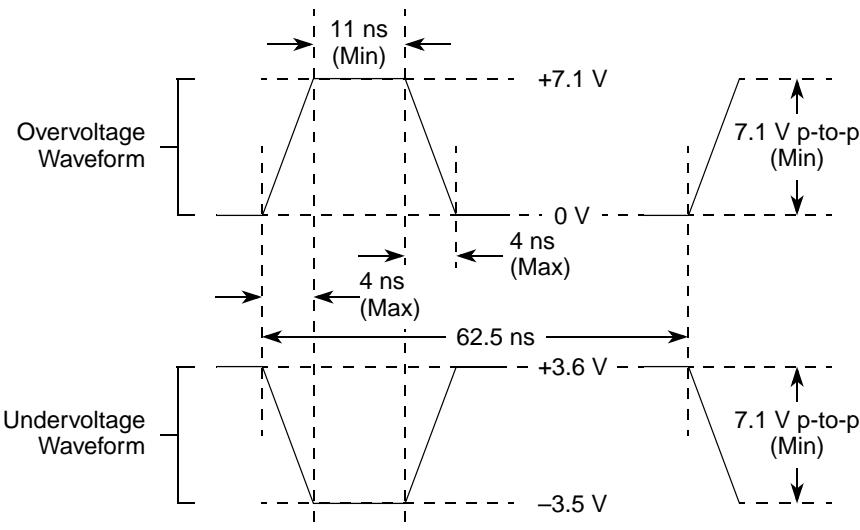

Figure 4. Maximum AC Waveforms on PCI interface for 3.3-V Signaling
6. OV_{IN} on the PCI interface may overshoot/undershoot according to the PCI Electrical Specification for 3.3-V operation, as shown in Figure 4.